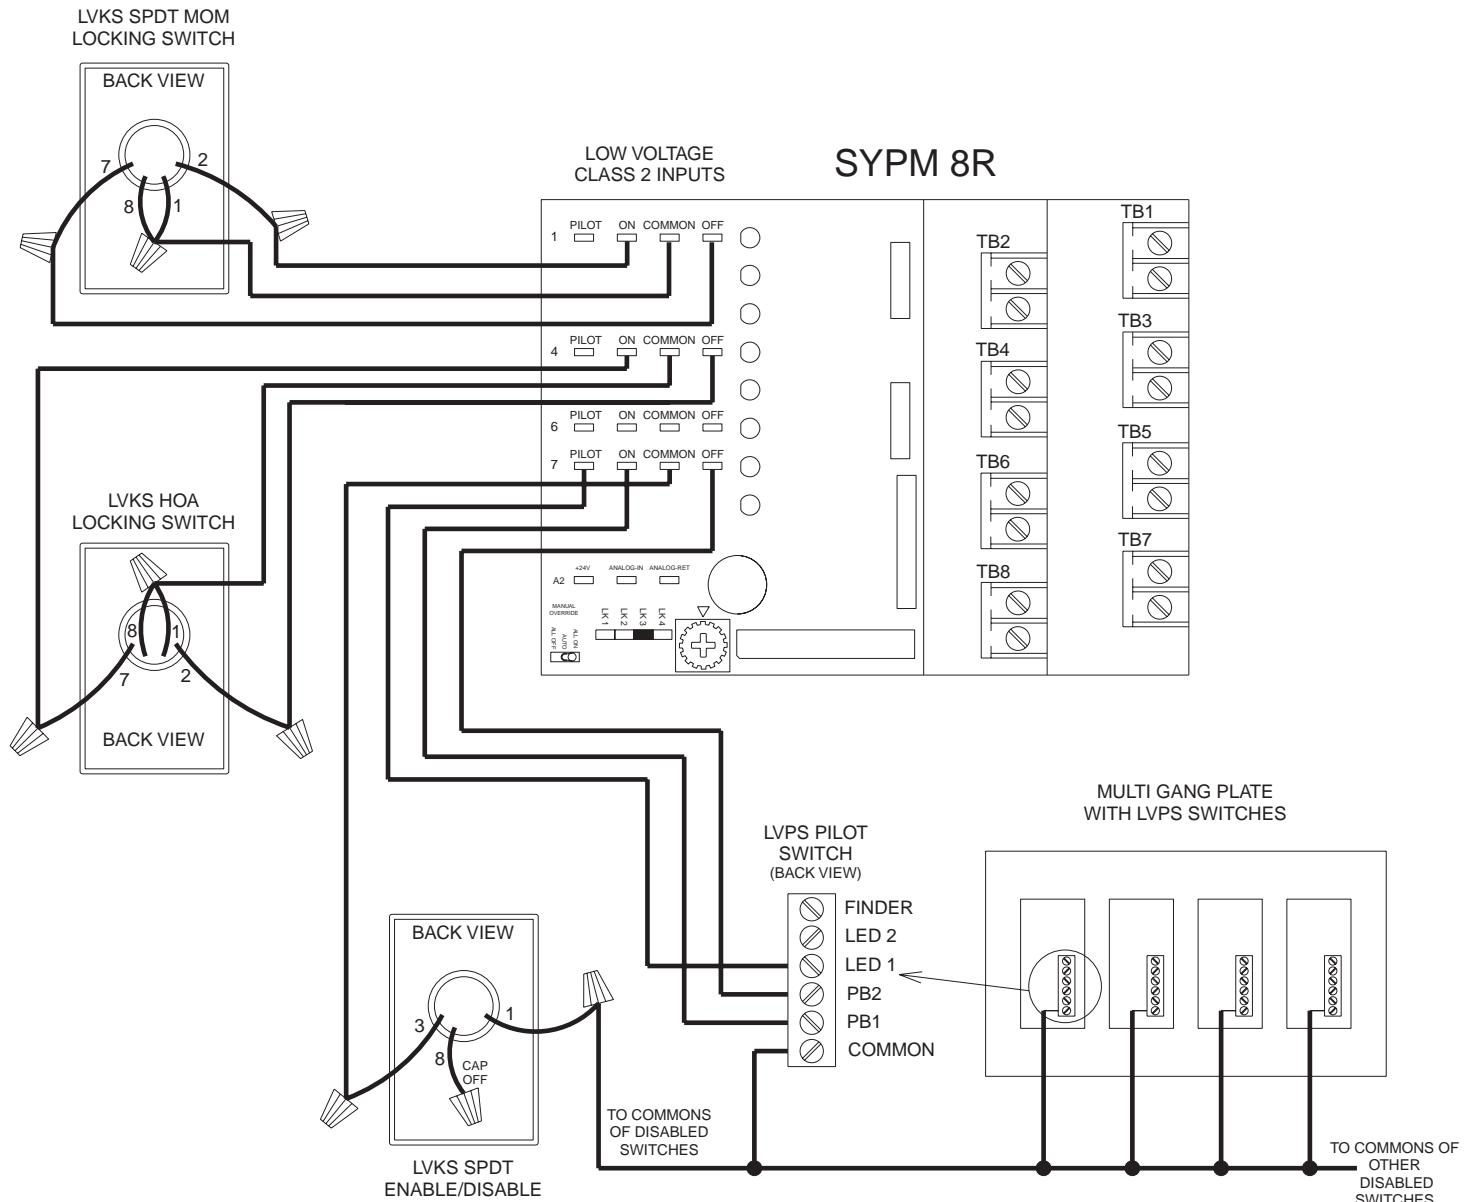

Figure 1 - LVKS Wiring Details
2. The keyswitch contains pigtail for device connections. See *Figure 1* for several example applications and their corresponding connections.